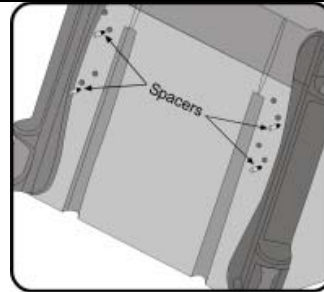

Figure 191: The Spacers Location on the HS Ventilator
3. For Disaster Preparedness models only: Screw the four spacers (item no. 5) into place, using a #6mm socket wrench (See Figure 191).